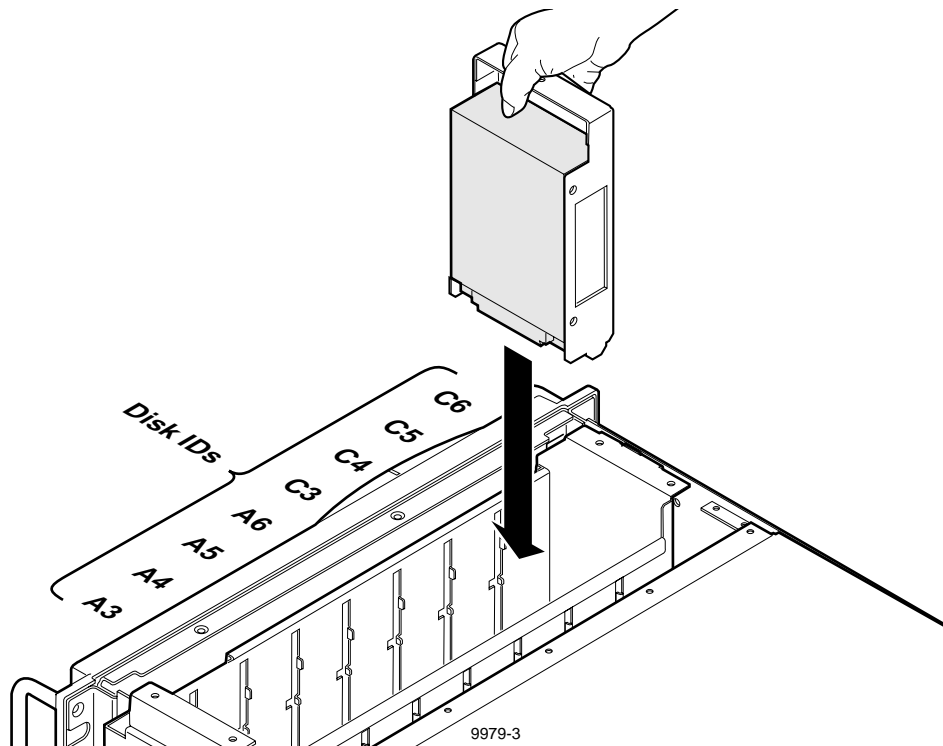

Figure 7. Installing Disk Drive Caddies
3. Being sure to observe the connector orientation, in turn, slide each new drive into an unused caddy slot in the drive tray and firmly press down to connect the drive connector to the SCSI Backplane (Figure 7).